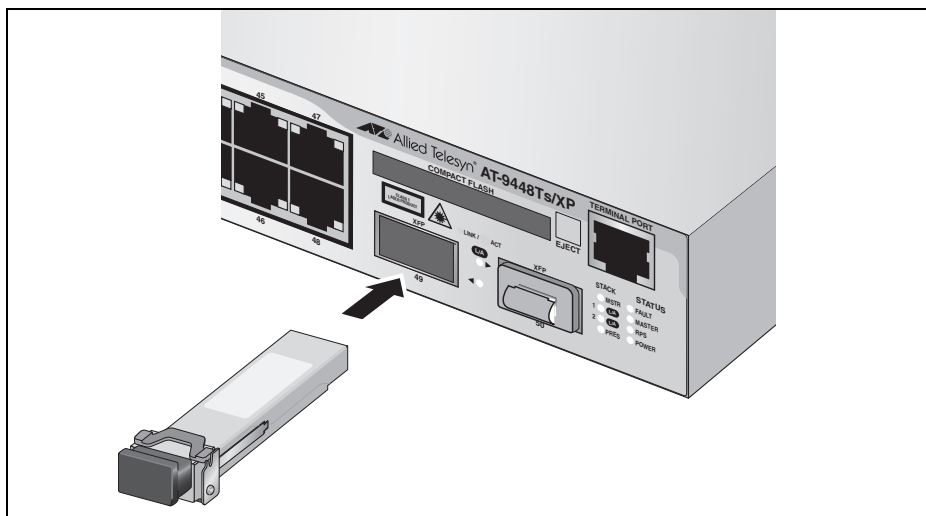

Figure 35. Installing an XFP Transceiver
4. Slide the transceiver into the slot until it clicks into place, as shown in Figure 35.